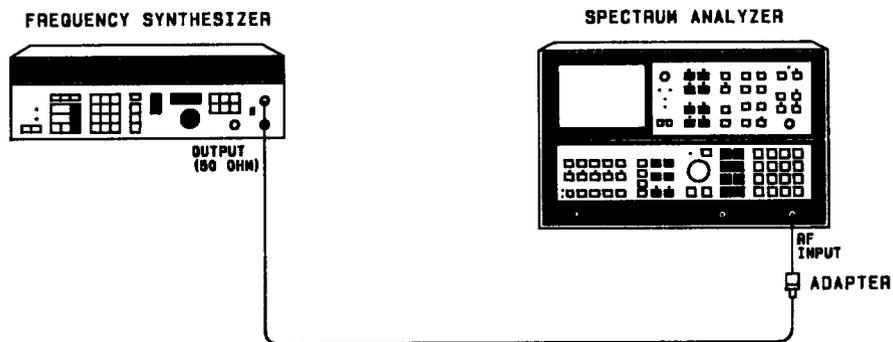

FIGURE 11. SCALE FIDELITY TEST SETUP
2. Connect equipment as shown in Figure 11.